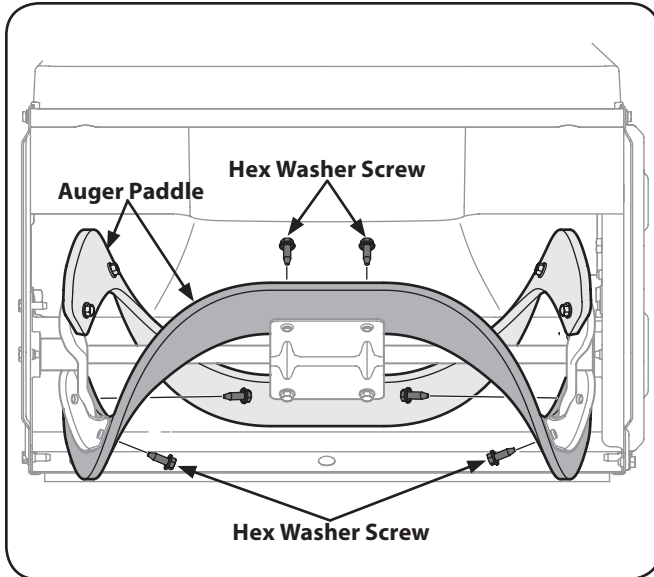

Figure 7-4
1. Remove the existing rubber paddles by unthreading the hex washer screws which secure them to the auger. See Figure 7-4.